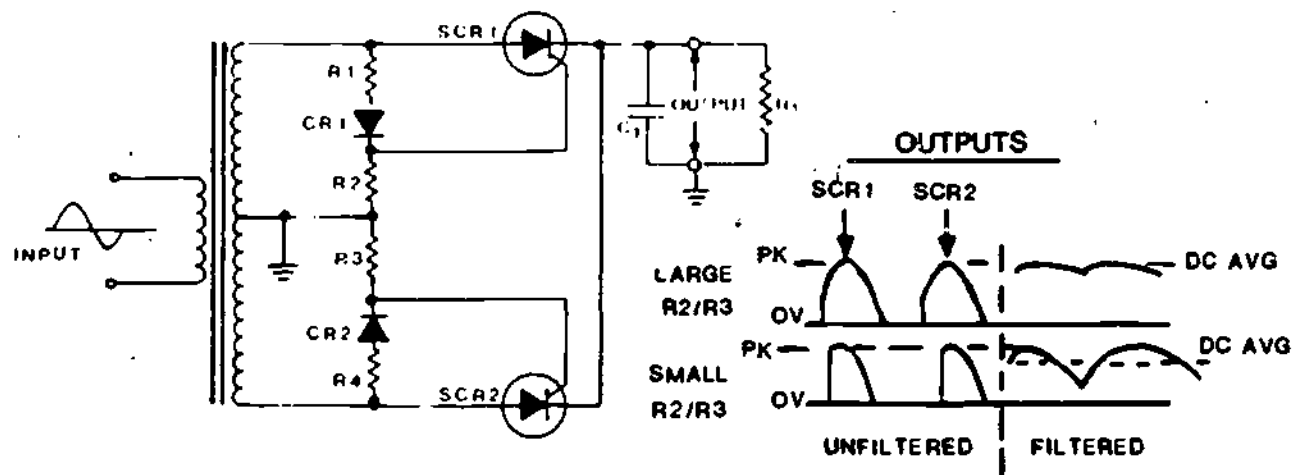

Figure 14
18. Up to this point the explanation has been concerned with one-half of a full-wave SCR rectifier. The schematic shown in Figure 14 represents a full-wave SCR rectifier. The advantage of this circuit is that the output has twice as many pulses as that of the half-wave rectifier which was previously explained, and it is easier to filter. Output waveforms are shown for filtered and unfiltered outputs.